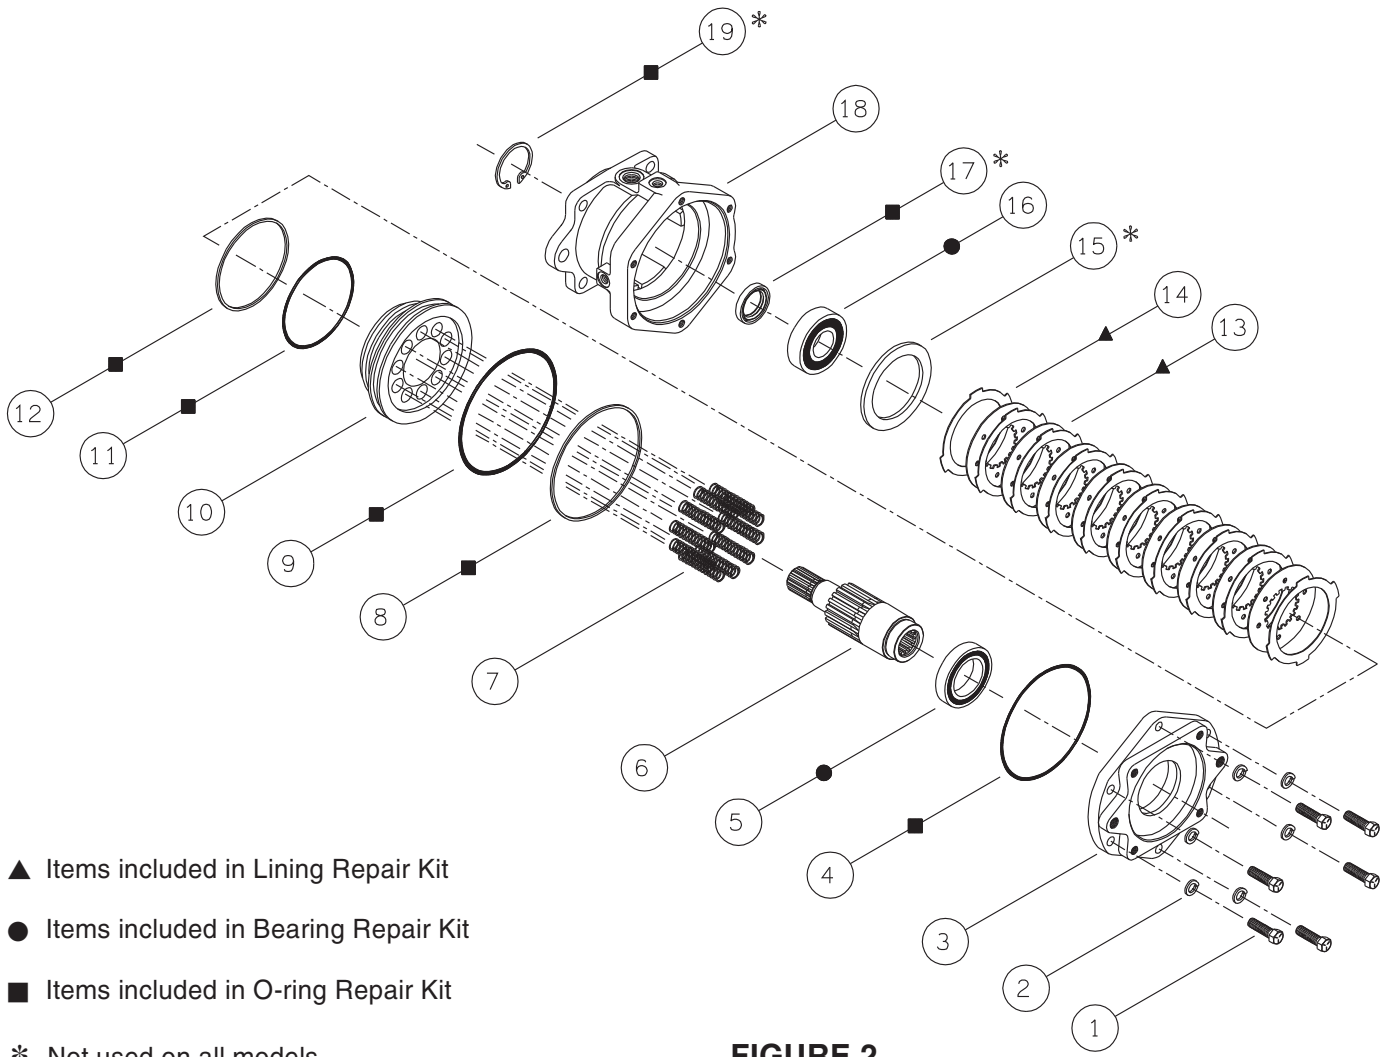

FIGURE 2
(Refer to Figure 2)
4. Damaged piston (10), Figure 2
2. Damaged springs (7)
3. Damaged piston (10), Figure 2
4. Broken bolts (1) allowing cover (3) to move away from housing (18)